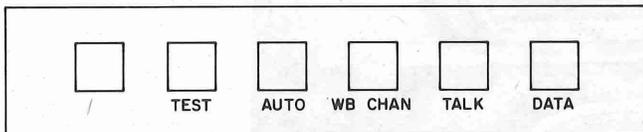

Fig. 12—Key Designations on Data Auxiliary Set 804A7
- (d) To change Fig. 12 to show square keys and to delete RING designation on first key.
- (c) Figure 12—revised.
12. The physical appearance is changed by the addition of decals on the press-fit, plastic key number strip. To place or replace the decal, pry plastic key strip from the edge slightly and lift over keys. Remove decal, substitute information shown in Fig. 12, and then replace.